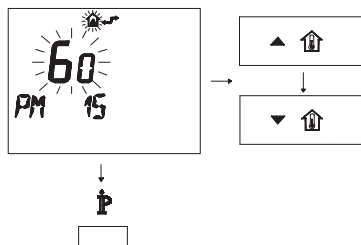

Fig. 8.4
- Modify the programmed SET by pressing buttons  or  until a **setting of 60** is displayed, wait for the number programmed to flash (Fig. 8.4).